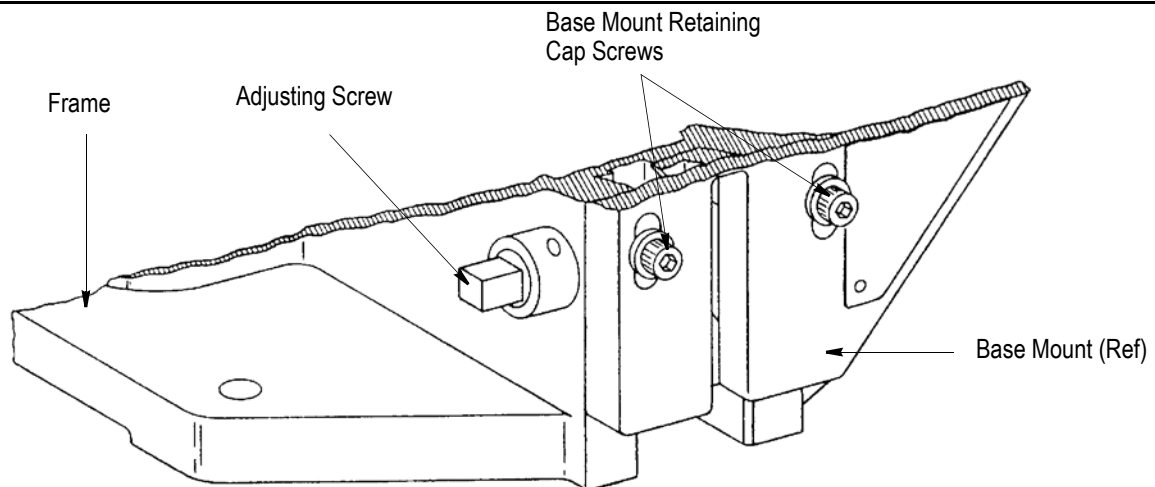

Figure 12
7.1. Crimp-Height/Shut-Height (Base Mount) Adjustment (Figure 12)